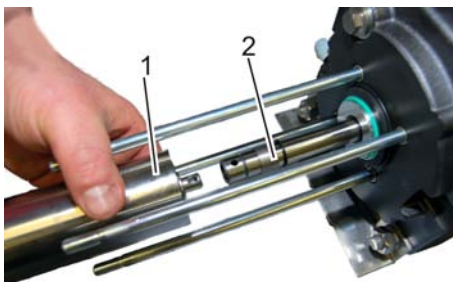

Fig. 82: Installing the high pressure cylinder
- 1.** Position high pressure cylinder with high pressure piston (Fig. 82/1) on piston rod (Fig. 82/2) and make sure that holes are aligned.